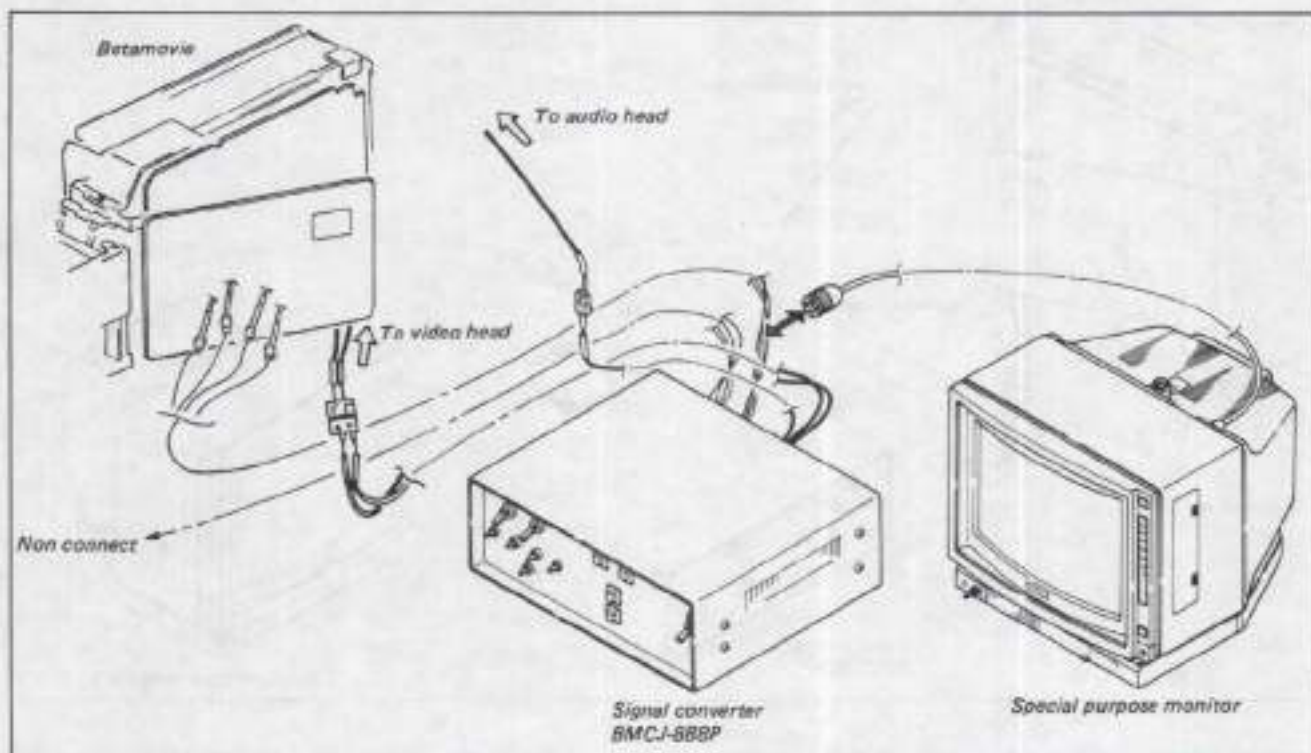
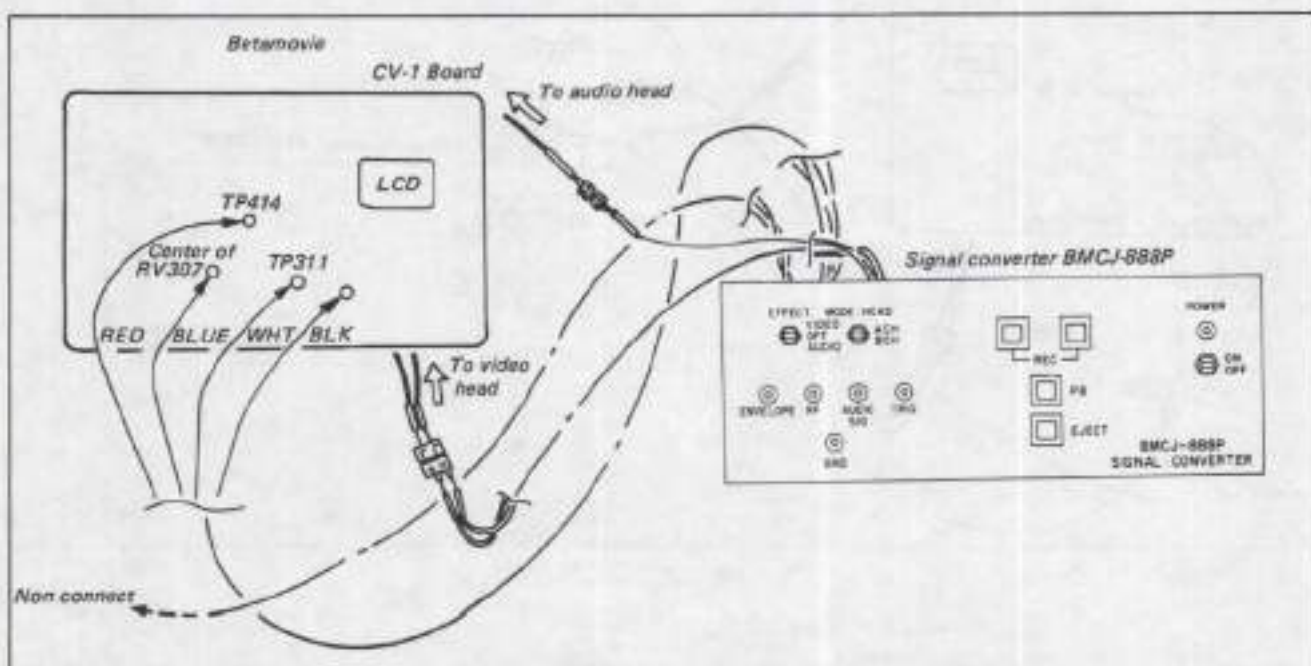

Fig. 1-7.
Fig. 1-8.
1. Connect Betamovie, signal converter BMCJ-888P and special purpose monitor together as shown in Fig. 1-7, Fig. 1-8.